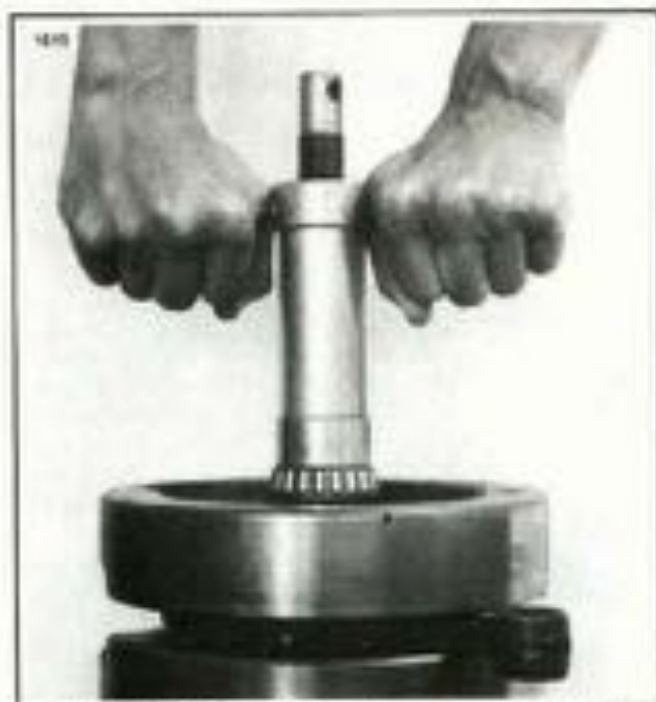

Figure 3-58. Pressing Bearing on Sprocket Shaft
1. Install flywheel side outer race lock ring (12) in case. When properly installed, oil hole in lock ring groove will be centered in lock ring gap. Use arbor press and OUTER RACE PRESS PLUG, Part No. HD-97194-57, to press outer race parts into crankcase bushing one at a time. Press the races into the case, one from each side, with the largest diameter outward to match taper of bearings. Be sure each race bottoms on the lock ring.
2. Position flywheel assembly, sprocket shaft up, in flywheel fixture. Press bearing (15) on sprocket shaft using BEARING INSTALLATION TOOL, Part No. HD-97225-55. SPROCKET SHAFT SPACER HD-24038-70 may be needed with BEARING INSTALLATION TOOL as shown in Figure 3-58. Press the parts on using the sprocket shaft spacer as a pressing tool only.
4. Install the bearing inner spacer (10) and tool sleeve and press bearing against flange on flywheel using the tool as shown in Figure 3-58.